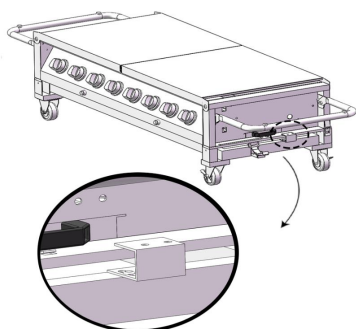

Fig.4
6. Then lock the Grill Bowl and Cart as Fig.4 shown.